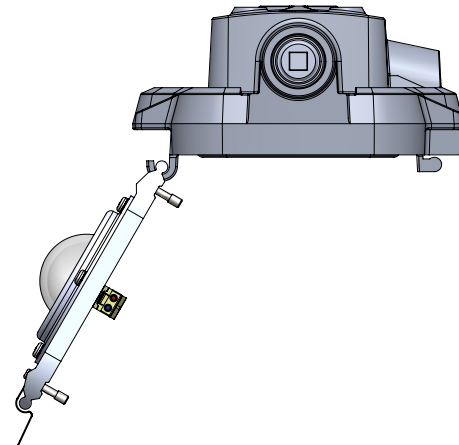

Figure 5. LED light engine fitting removal/installation
8. LED light engine fitting should now be disconnected and may be lifted off the luminaire driver housings hooks (see Figure 5).
10. Hang the LED light engine fitting on the driver housing hooks as shown in Figure 5.